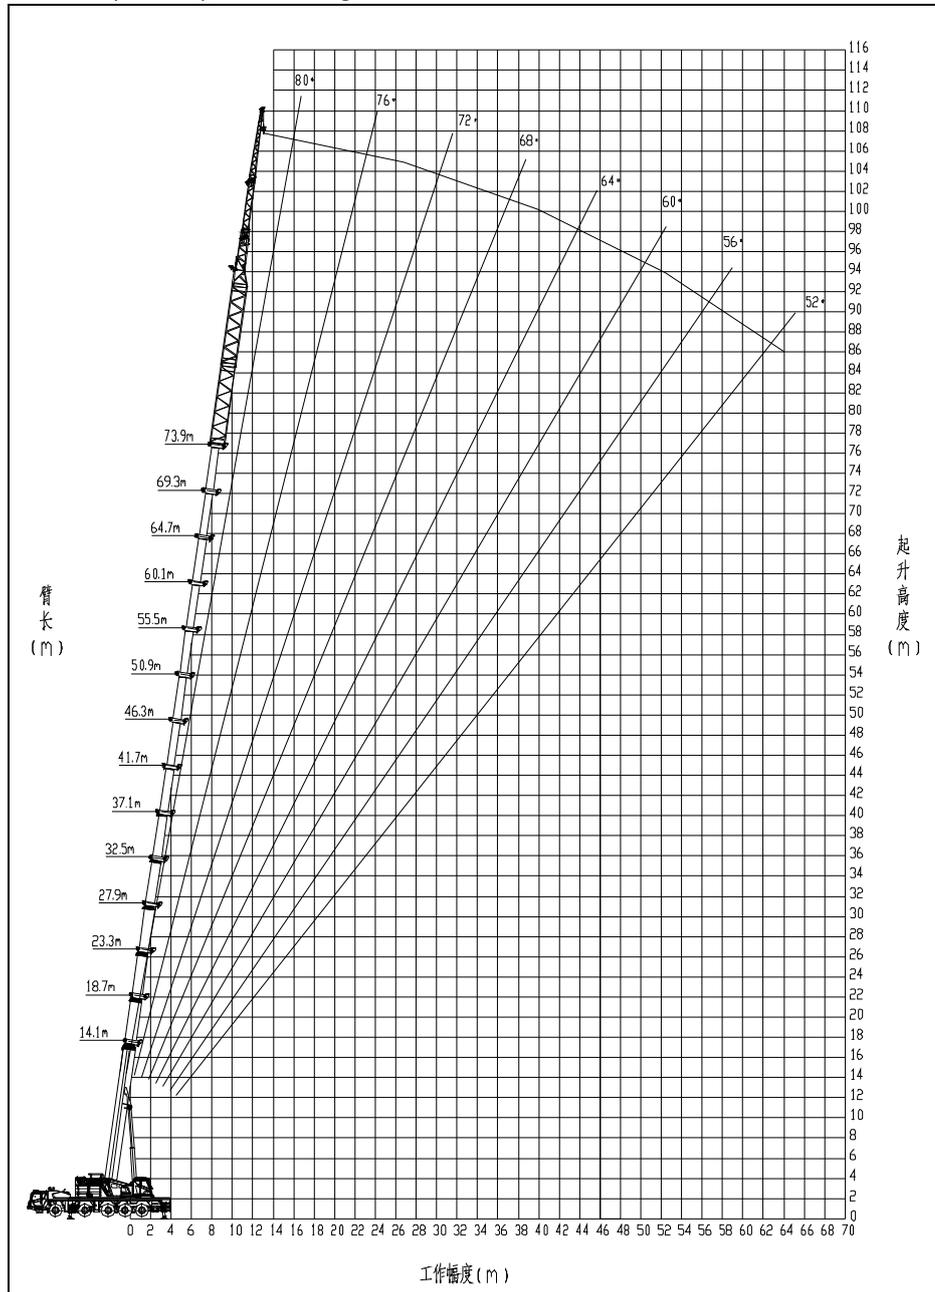

Figure 1-22 73.9 m main boom + 8 m extension 1 + 8 m extension 2 + jib variant 2 (17.5 m)
- a) For the lifting height chart for 73.9 m main boom + 8 m extension 1 + 8 m extension 2 + jib variant 2 (17.5 m), refer to Figure 1-22.